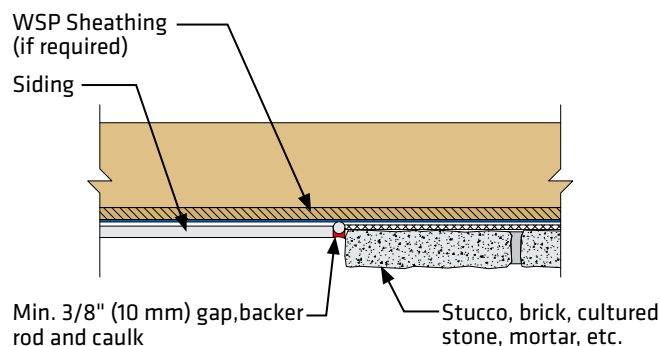

Figure 5f
- Where siding butts masonry, stucco, mortar or cultured stone, etc. (Figure 5f)